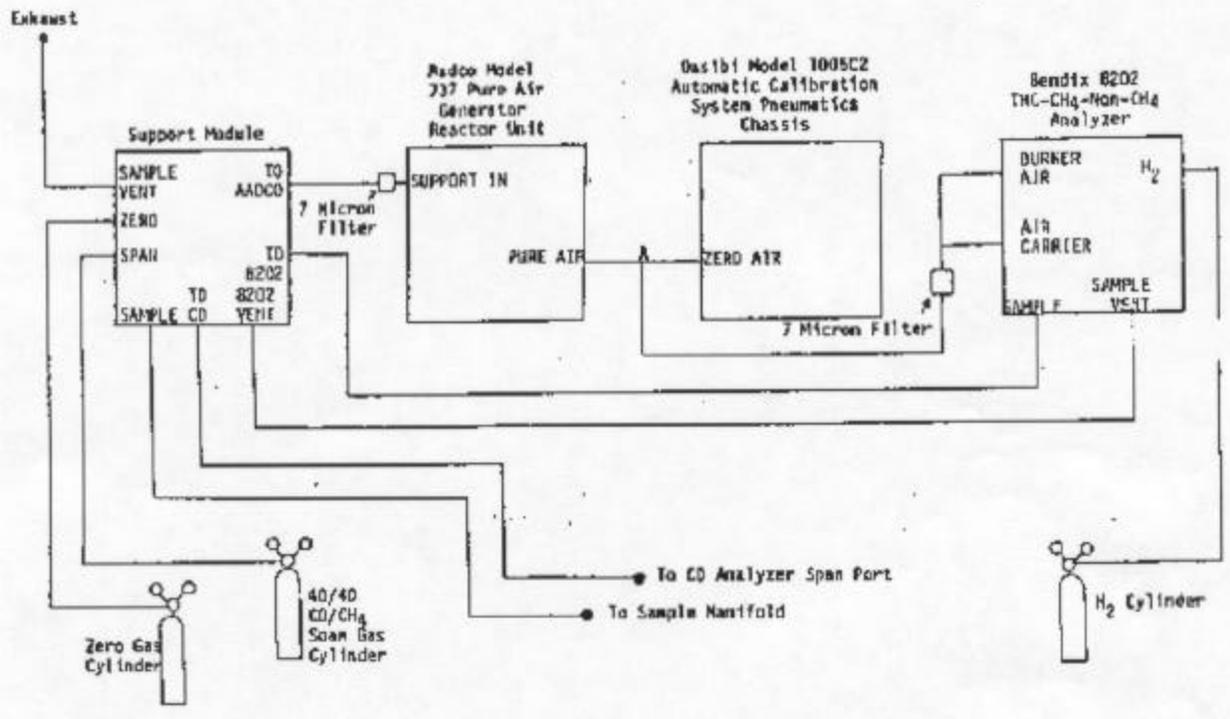

Figure J.4.1.3
After completing Aadco Modification No. 737-3, interconnect the support module, the Aadco and the Bendix 8202 hydrocarbon analyzer following the procedure outlined below. The interconnection of the units is illustrated in Figure J.4.1.3.
- 5) Cut the tubing that connects the "PURE AIR" outlet port on the Aadco Reactor Unit to the "ZERO AIR" inlet port of the Dasibi "Auto-Cal" pneumatics chassis. Install a 1/4" swagelok tee in the tubing at the point of the cut (see Figure J.4.1.3).